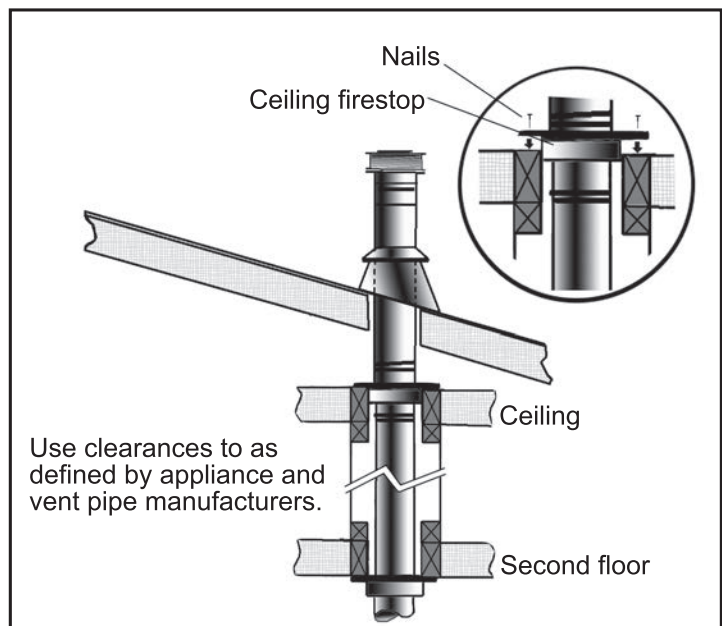

**Figure 39: Use of Wall Straps.**
- (1) If an offset is necessary in the attic to avoid obstructions, it is important to support the vent pipe every **3' (914 mm)**, to avoid excessive stress on the elbows, and possible separation. Wall straps are available for this purpose (see Figure 39).
- (2) When ever possible, use 45° degree elbows instead of 90° degree elbows. The 45° degree elbow offers less restriction to the flow of flue gases and intake air.